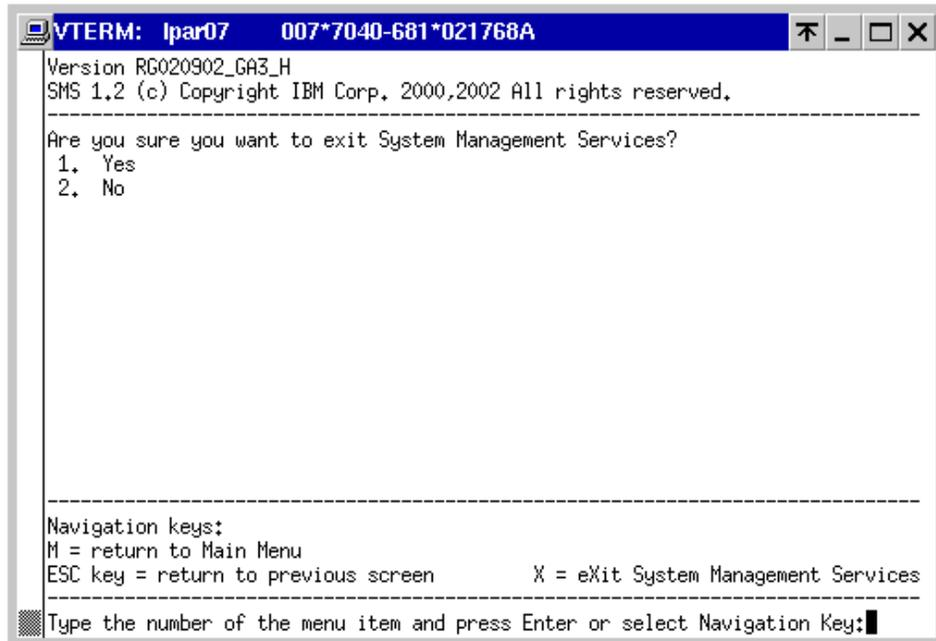

Figure 7-10 SMS: Exit confirmation
17. Press 2 to confirm the exit from the SMS menu, as shown in Figure 7-10.